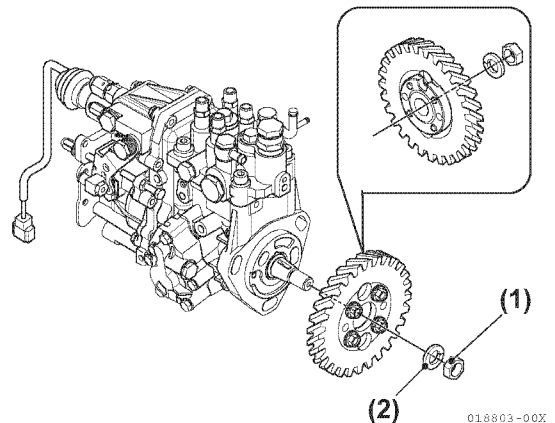

Figure 6-61
- Once the fuel injection pump drive gear and hub assembly has “popped” loose from the tapered fuel injection pump driveshaft, carefully remove the drive gear nut (**Figure 6-61, (1)**) and lock washer (**Figure 6-61, (2)**).